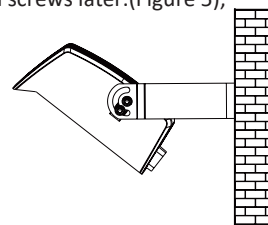

figure 5
Step 3: Loosen screw; Adjust fixture angles as per actual demands and tighten screws later.(Figure 5),